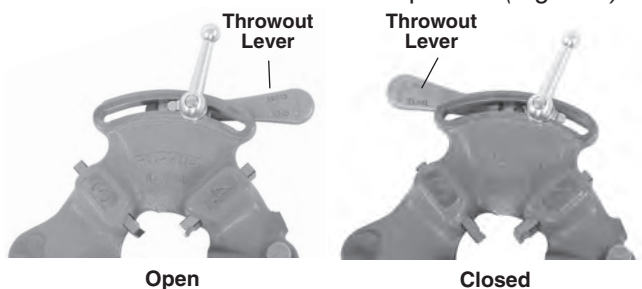

Figure 7 – Open/Closed Lever Position
2. Move throwout lever to OPEN position (Figure 7).